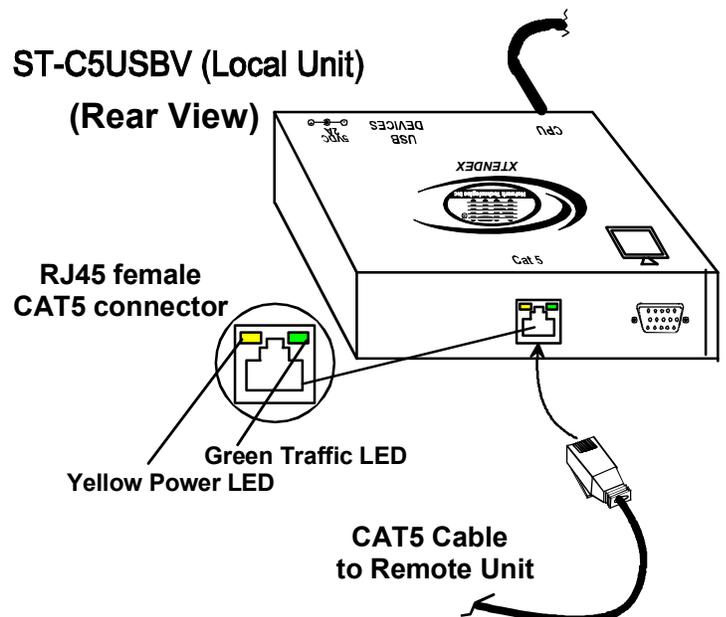

Figure 3- Connect the CAT5 cable to the Local Unit
Connect the CAT5 cable to the "CAT5" port on the rear of the Local Unit (see Fig. 3). (If an RJ45 wall outlet is being used, connect the other end of the extension cable to it.) When properly inserted the cable end should snap into place.
6. Turn ON the CPU and monitor. The CPU and monitor should each react as if they were directly connected to each other. The green communication LEDs on the Remote and Local Units (see fig. 3) should blink indicating there is proper communication between them.